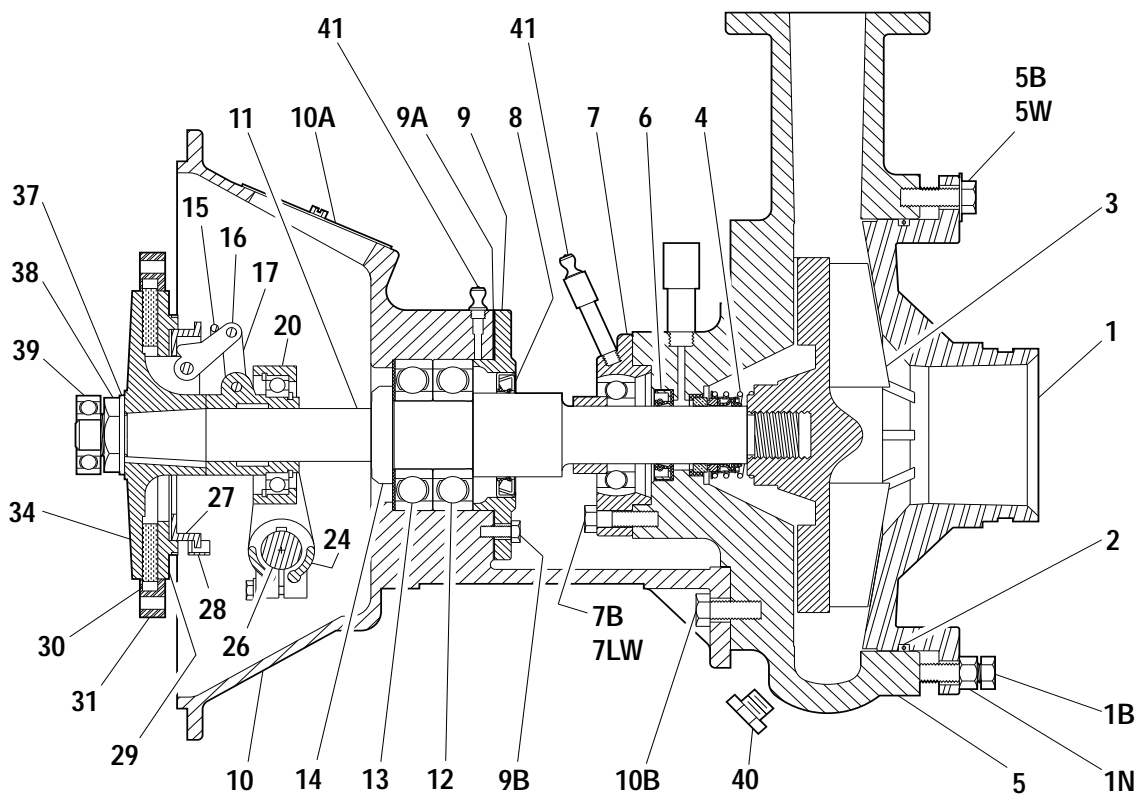

Figure 6 – Cross-Section Through Clutch/Pump Assembly (Clump)
**NOTE:** Refer to Figures 6 for all in-text callouts mentioned.